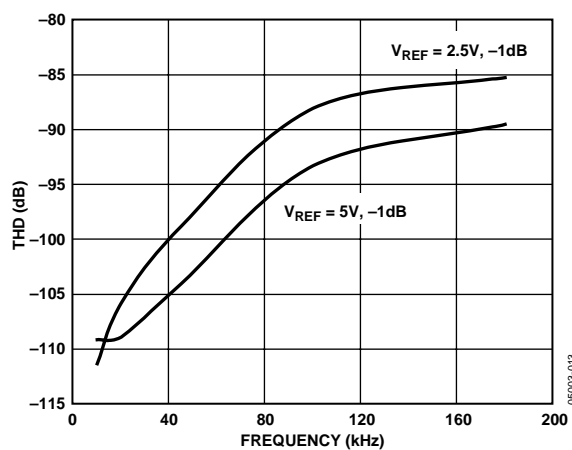

Figure 13. THD vs. Frequency
- For ac applications, the driver needs to have a THD performance suitable to that of the AD7694. Figure 13 gives the THD versus frequency that the driver should exceed.